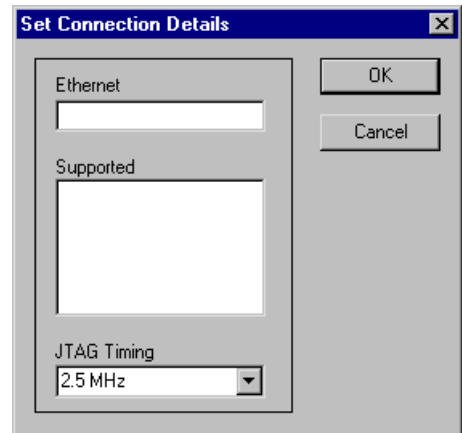

Figure 4 Set Connection Details panel
6. Click **Set** to set connection details for your probe. A Set Connection Details panel is displayed (Figure 4).